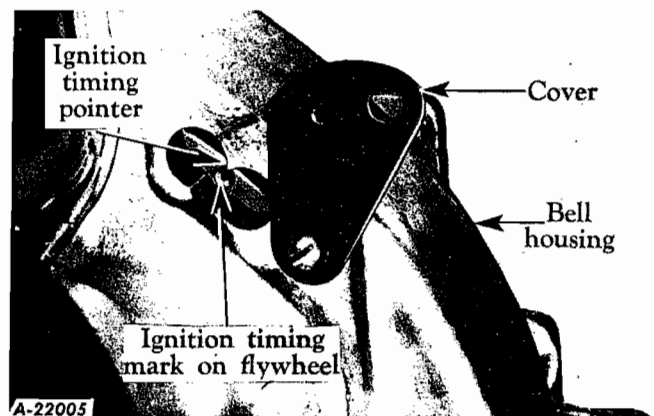

Fig. 75
3. **ADJUSTING VALVES.** To adjust valve stem to valve rocker arm clearance correctly, each cylinder must be on top-dead-center on its compression stroke at the time of adjustment of valves for that cylinder. To determine the correct position, turn the engine crankshaft until No. 1 piston is at top-dead-center on compression stroke and the ignition timing dot on the flywheel is in line with the pointer on the flywheel housing (Fig. 75). Adjust clearance on each valve of No. 1 cylinder to .018" to .020" by using a feeler gauge between valve stem and valve rocker arm and turn rocker-arm adjusting screw out of rocker arm until clearance is obtained. Tighten adjusting screw lock nut and recheck clearance. (NOTE: Valve clearance should be rechecked with engine at normal operating temperature.)